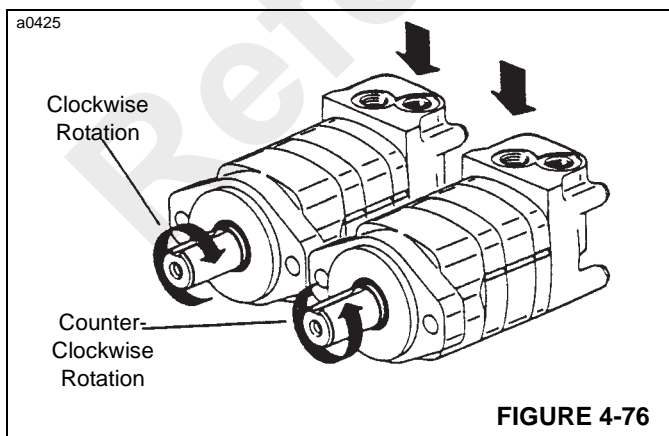

FIGURE 4-76
- 16. Locate any one of side openings of the valve (13) and align this opening with the open slot of the valve plate that is line with largest open pocket of the gerotor. Install the valve by rotating it clockwise until the spline teeth engage (1/2 spline tooth maximum). This will provide the proper rotation when pressurized as shown in Figure 4-76.